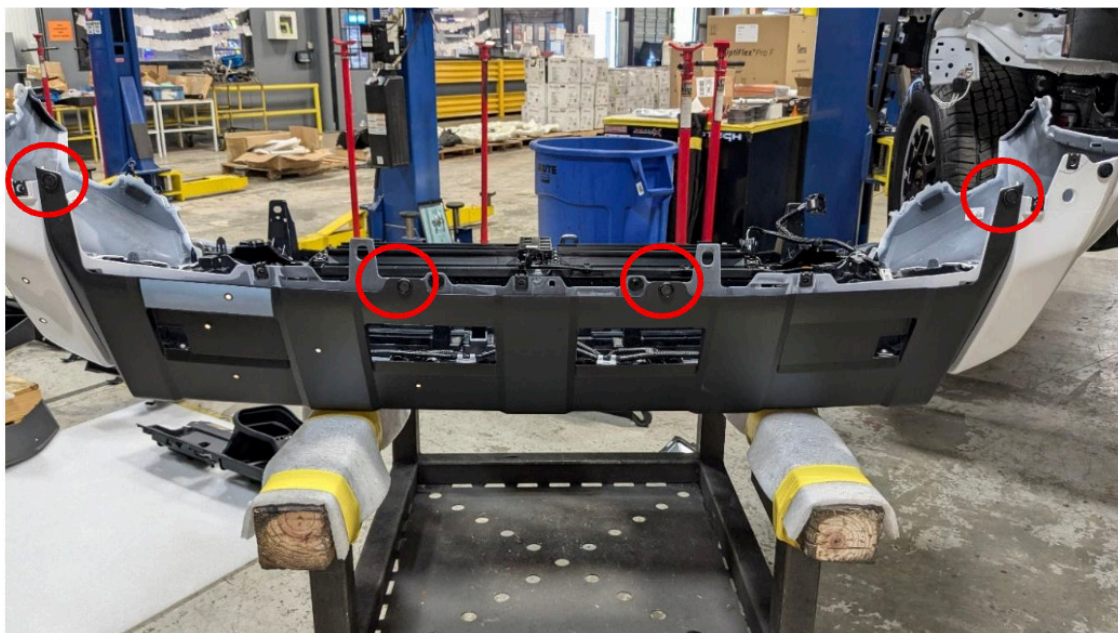

Figure 24
16. Using a panel pry tool, remove the four (4) push pins from the bottom of the fascia. (Figure 24)